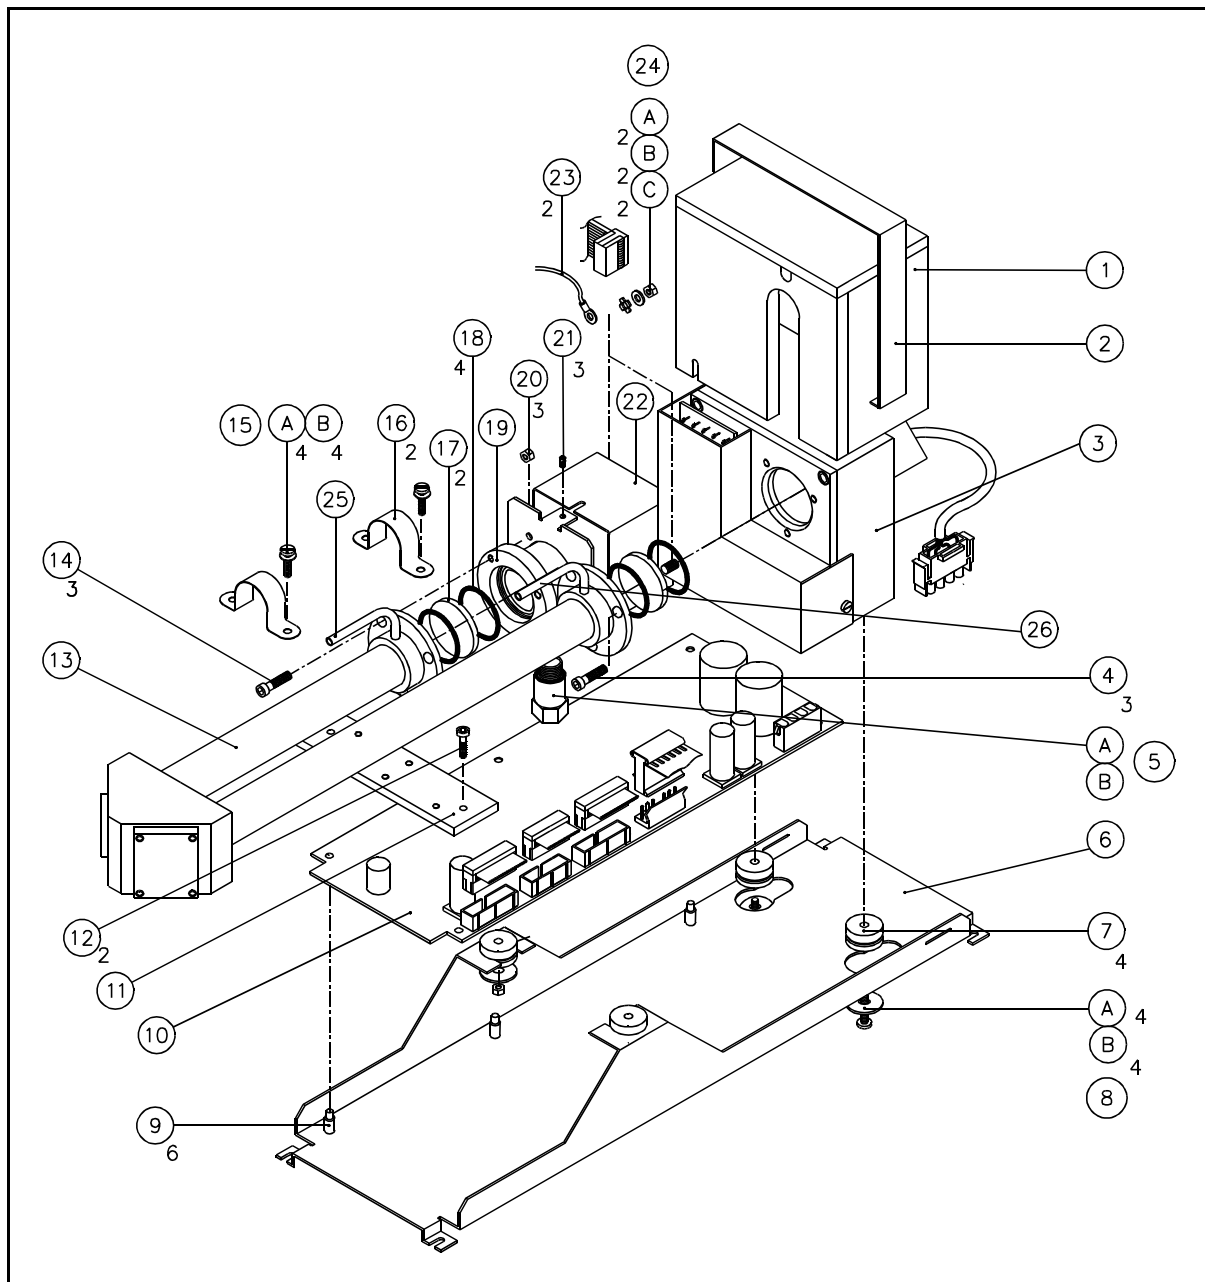

Figure 6.16 1210 High sensitivity Gfx gas sensor assembly
- c) Referring to figure 6.16, remove the viton tubing from the transducer inlet [25] and outlet [26] gas connections. Loosen the four transducer washer nut fixings and slide the transducer to the right and lift free from the 4100 chassis.
The chopper box and light pipe(see figure 6.16 [3,19]) are sealed enclosures. Once opened a new scrubber must be fitted.
Referring to figure 6.16.
Refer to figure 6.16.